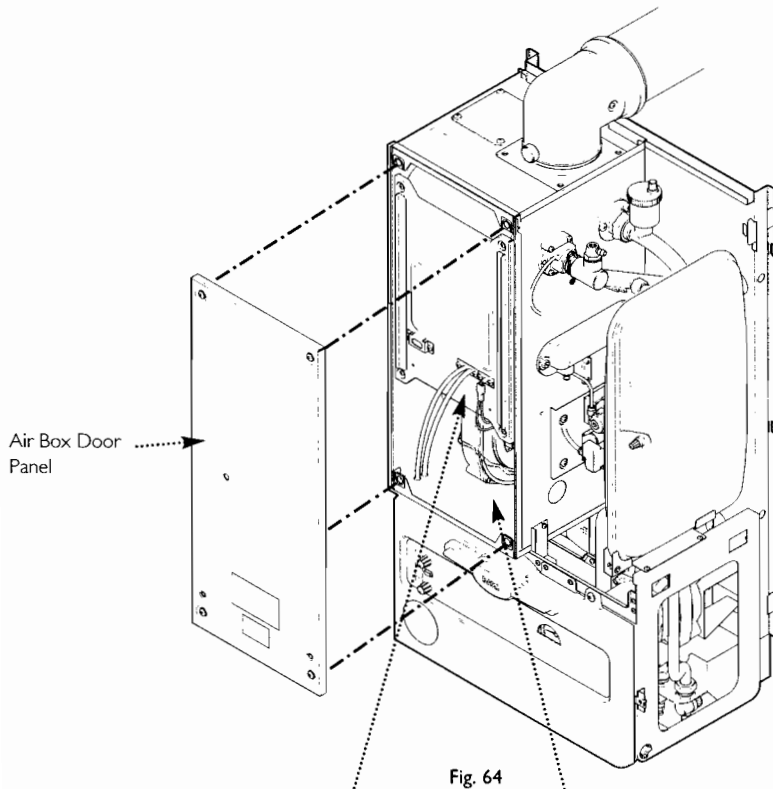

Fig. 64
1. Remove the airbox door panel by loosening the four 1/4 turn screws (Fig. 64).